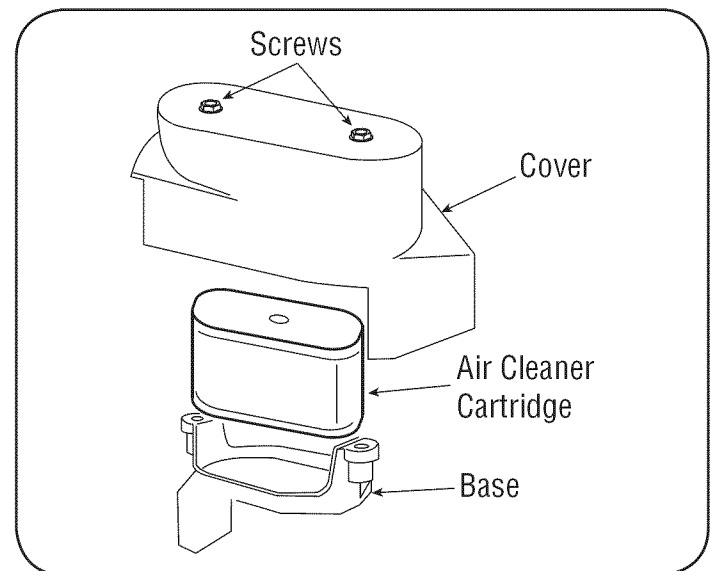

Figure 13
2. Open cover and remove cartridge. See Figure 13.